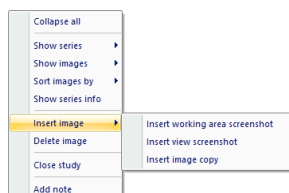

Figure 183 – Context menu of the thumbnails palette
3. Right-click to open the context menu and select the **Insert image/Insert working area screenshot** item (see Figure 183). The image from the current view is then automatically inserted at the end of the target series.
3. Right-click to display the context menu and select the **Insert image/Insert view screenshot** item (see Figure 183). The screenshot of the current view is then automatically inserted at the end of the series.
3. Right-click to display the context menu (see Figure 183) and select the **Insert image/Insert image copy** item (see Figure 183). The image from the current view is then automatically inserted at the end of the series.
2. Right-click to display the context menu (see Figure 183) and select the **Delete image** item. The image is then automatically deleted from the series.